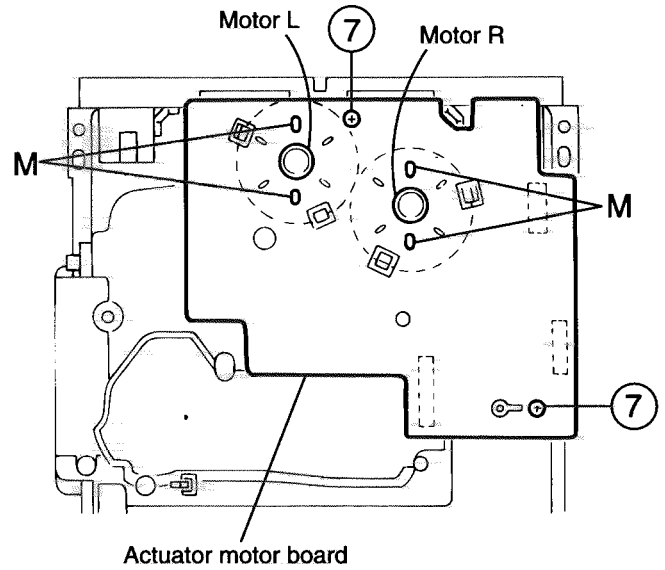

Fig.14
(See Fig.14, 15)**
1. Absorb the four soldered positions "M" of the right and left motors with a soldering absorber(See Fig.14).
2. Remove the two screws 7 retaining the actuator motor board(See Fig.14).